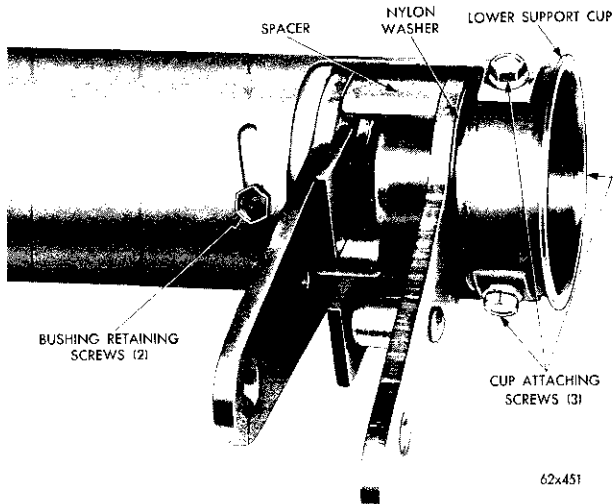
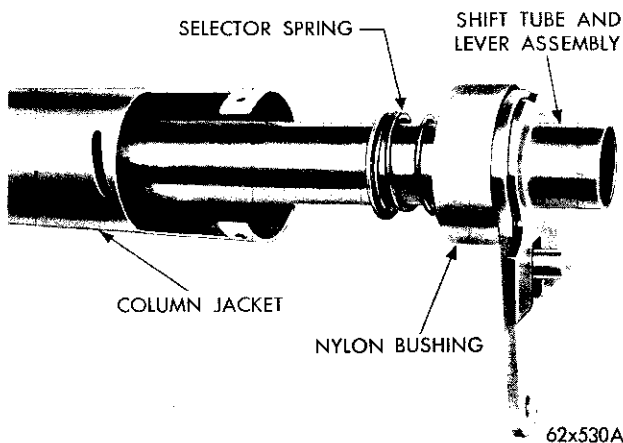

Fig. 9—Steering Column—Lower End
Fig. 10—Removing Shift Tube Assembly
(10) Remove the three lower support cup to jacket attaching screws (Fig. 9) and remove the cup.
(11) Remove the nylon thrust washer, the low and reverse lever, and the spacer.
(12) Remove the two lower shift tube bushing retaining screws at the slotted holes in the jacket.
(13) Slide the shift tube with the 2nd and direct lever, nylon bushing, spring and spring retainer out of the jacket (Fig. 10).
(7) Turn the nylon bushing on the shift tube, (Fig. 10) so the two holes in the bushing are aligned with the centerline of the 2nd and 3rd speed shift lever, then slide the shift tube and lever assembly through the jacket tube and into the bearing housing.
(8) Install the spacer around the selector lever so it rests against the 2nd and 3rd speed shift lever.
(9) Install the low and reverse lever. Then install the nylon washer, centering it over the end of the shift tube.
(10) Install the lower support cup in the jacket (Fig. 9), while holding pressure against the cup to overcome the selector spring load, start the three support cup retaining screws, and tighten to 30 inch pounds.
(11) Loosely enter the lower bushing retaining screws through the slots in the jacket, and into the nylon bushing (Fig. 10).
(12) Rotate the nylon bushing to where all play at the shift levers and spacers is eliminated, but no binding occurs. With the bushing in this position, tighten the two bushings to jacket screws to 30 inch pounds torque.